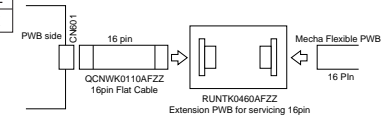

Figure 10
• Extension Cable (See Fig.10)